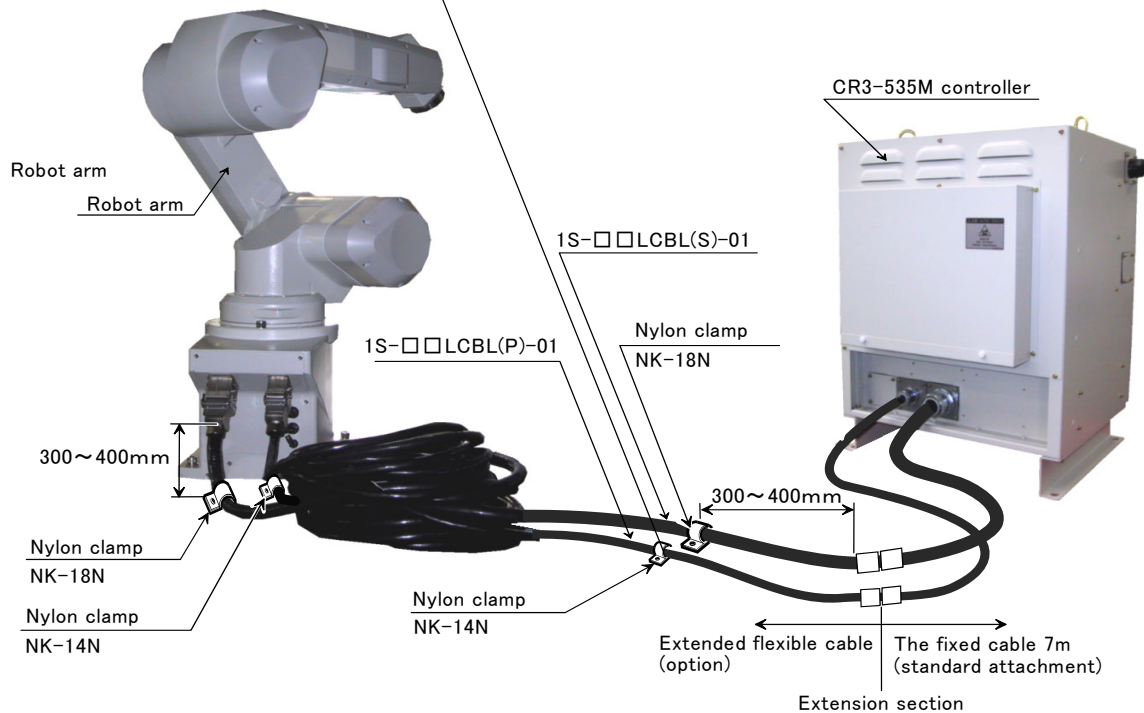

Fig.2-13 : Fixing the flexible cable
- (1) Connect the connector to the robot arm .
- (2) Wind the silicon rubber around the cable at a position 300 to 400 mm from the side of robot arm and extension section as shown in Fig. 2-13, and fix with the nylon clamp to protect the cable from external stress.